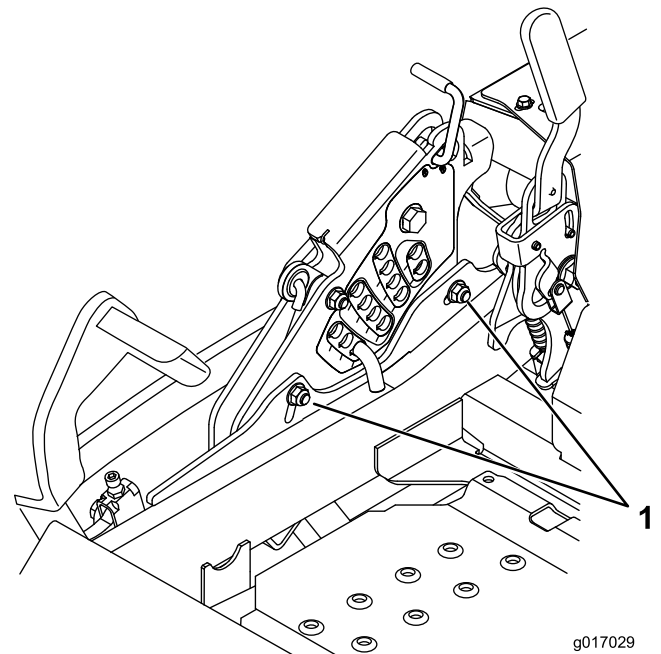

**Figure 89**
10. Fine-tune the adjustment nut on the front deck lift assembly by turning it (Figure 89).
16. Fine-tune the adjustment nut on the front deck lift assembly by turning it (Figure 89).